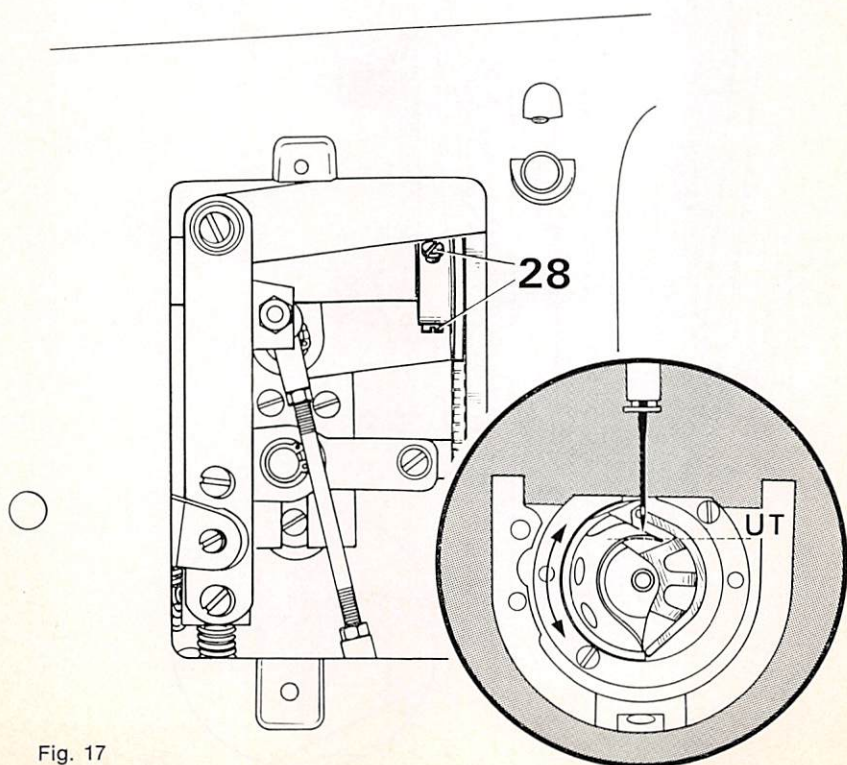

Fig. 17
**17. Timing the shuttle driver motion and adjusting the needle rise (Fig. 17)**
- 17.6. Rotate the V-belt pulley backwards until the C-clamp screwed to the needle bar again contacts the needle bar frame. In this position, the shuttle point must again be positioned exactly behind the needle (see encircled view in Fig. 17).